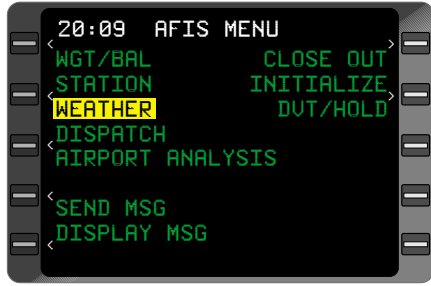

Figure 8-27
2. Line Select Key - DEPRESS to position the cursor over **WEATHER**. See Figure 8-27.